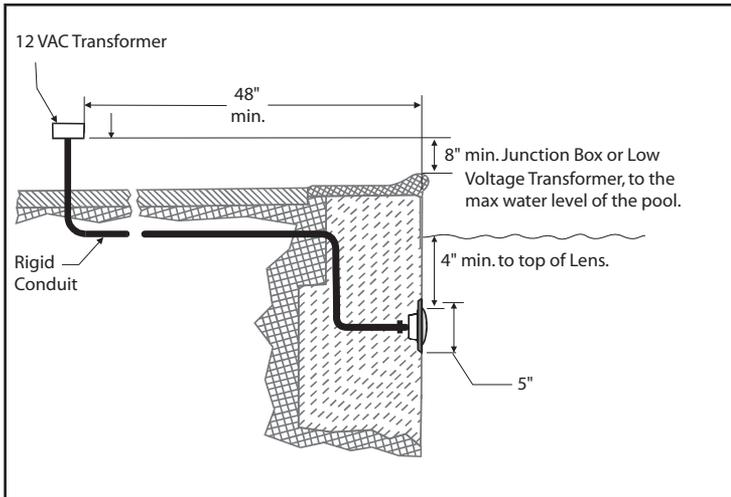

Figure 1. Jandy Pro Series LED Light Installation with standard 1.5" plastic fitting
1. The junction box or the low-voltage transformer must be located at least eight (8) inches (measured from the inside of the bottom of the junction box or transformer) above the MAXIMUM water level, OR at least four (4) inches above the ground level or pool deck, whichever is greater. The junction box or transformer must also be installed at least forty-eight (48) inches (4 ft.) from the edge of the pool. See Figure 1.
2. A standard 1.5" plastic wall / return fitting (not included) must be installed so that the top edge of the underwater light's lens is at least 4 inches (10.2 cm) below the surface of the water in the pool. See Figure 1.
1. Feed cord through electrical conduit to junction box, leaving at least fourteen (14) inches of slack cord in the conduit near the pool wall to allow for winterization. See Figure 1.